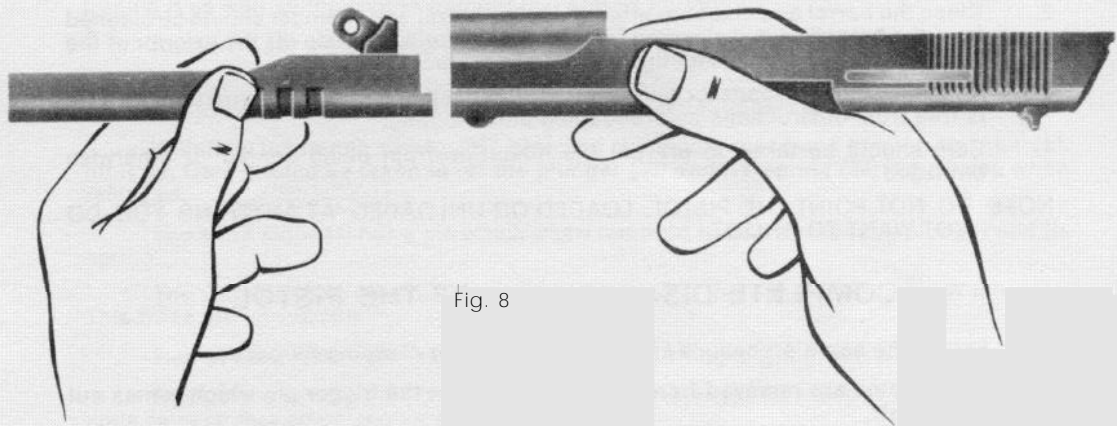

Fig. 8
6. The barrel may then be drawn out if the link is tilted forward (See fig. 8).